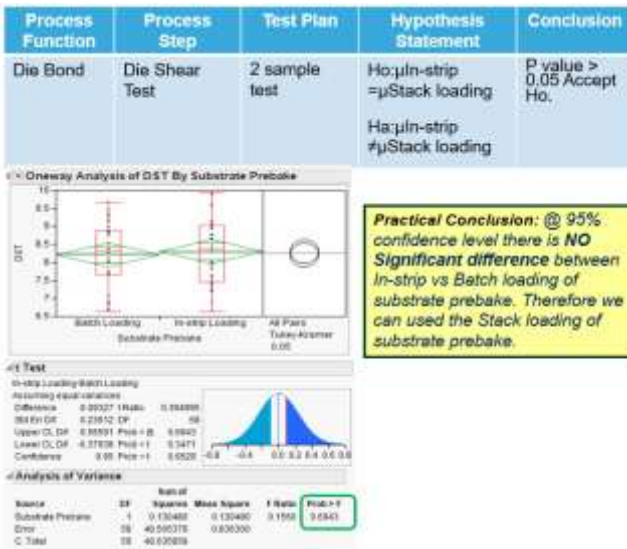
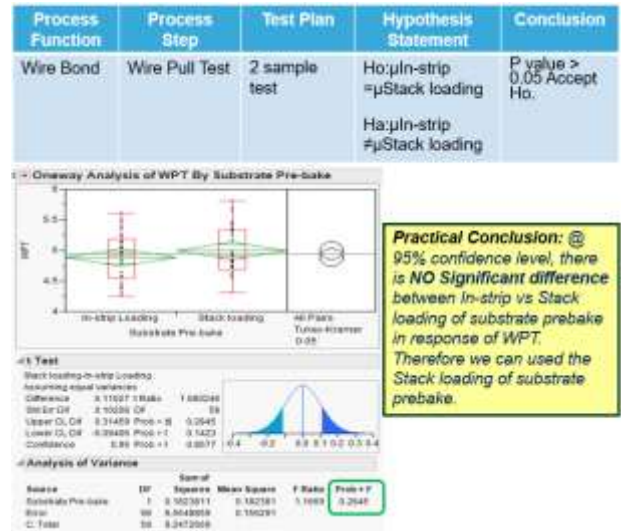
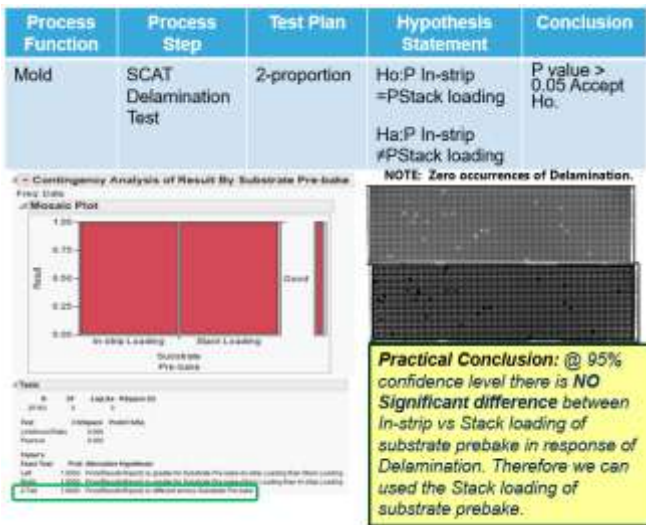
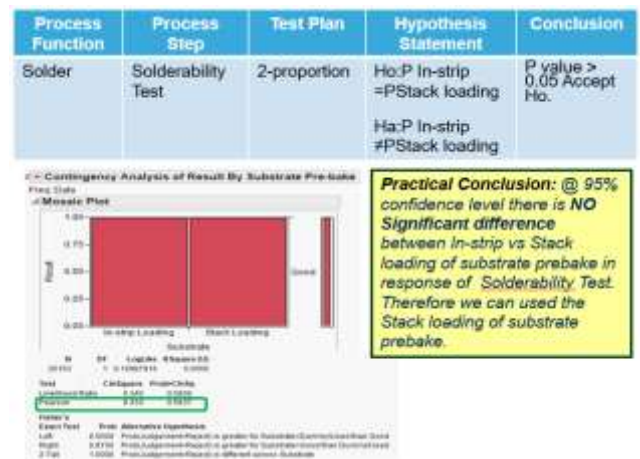

Fig. 6. Die shear strength test.
Fig. 7. Wire pull test.
Fig. 8. SCAT delamination test.
Fig. 9. Solderability test.
- This time on bondability performance results such as die shear strength test in Fig. 6, wire pull test in Fig. 7, scanning acoustic tomography (SCAT) delamination test in Fig. 8, and solderability test in Fig. 9, it showed statistically no significant difference